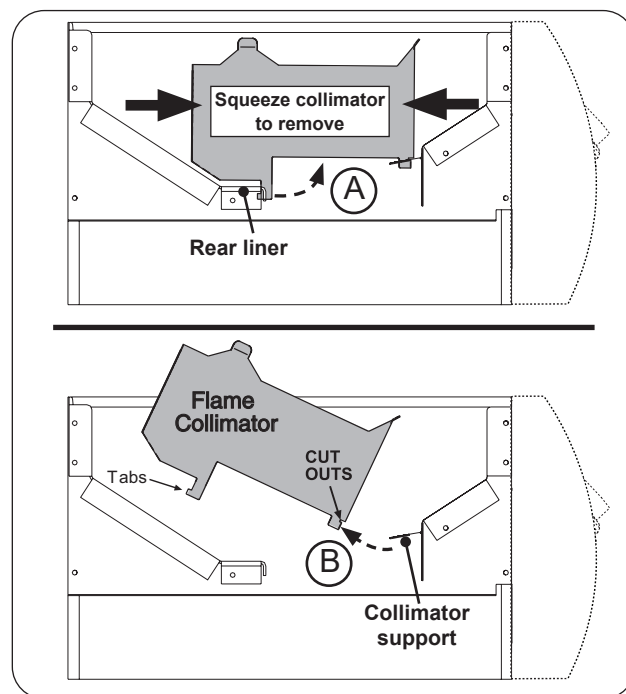

Fig. 39-2 Flame collimator removal
6. Squeeze the collimator to detach the rear tab from the rear liner as shown in Fig. 39-2, A, and lift up the rear portion of the collimator.
7. Detach the collimator from the front collimator support and completely remove the collimator as shown in Fig. 39-2, B.